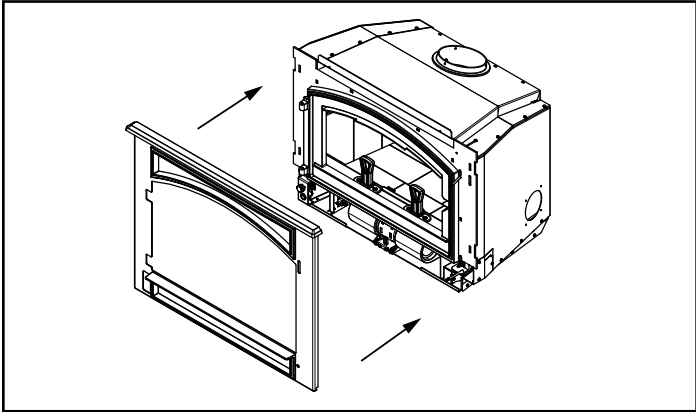

Figure 5.10
5. Reinstall face to front of appliance (**Figure 5.10**).
- 8. Reinstall face to front of appliance (**Figure 5.10**).